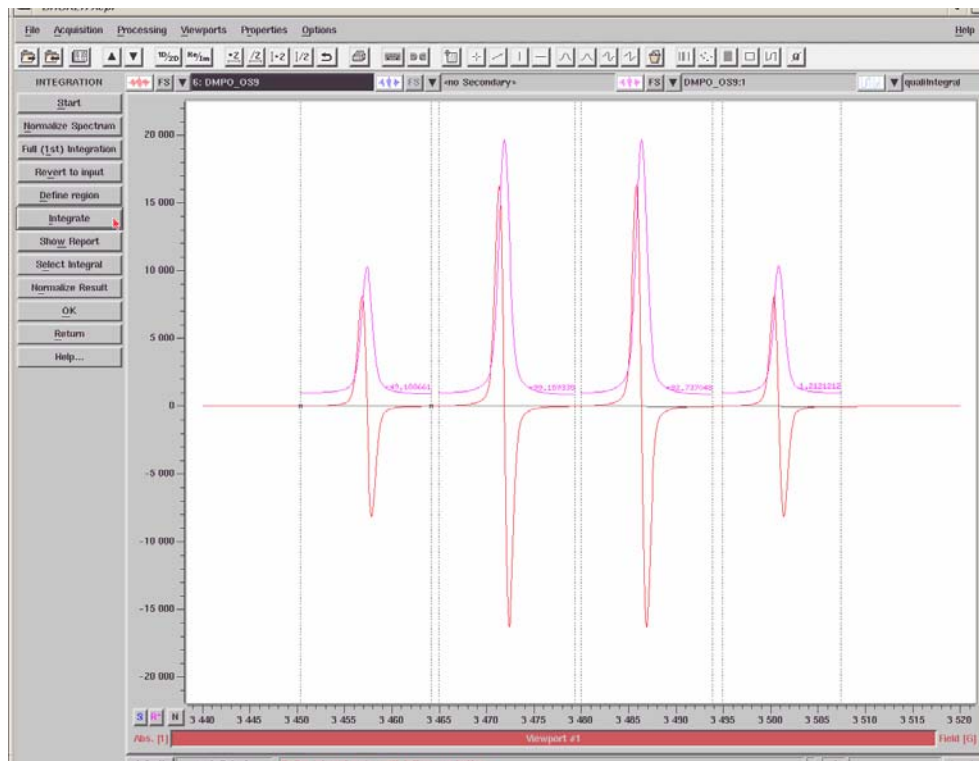

Figure 6-42 Integrals of individual region.
8. **Integrate the individual peaks.** Click the Integral button. Each area will be integrated separately. (See Figure 6-42.)